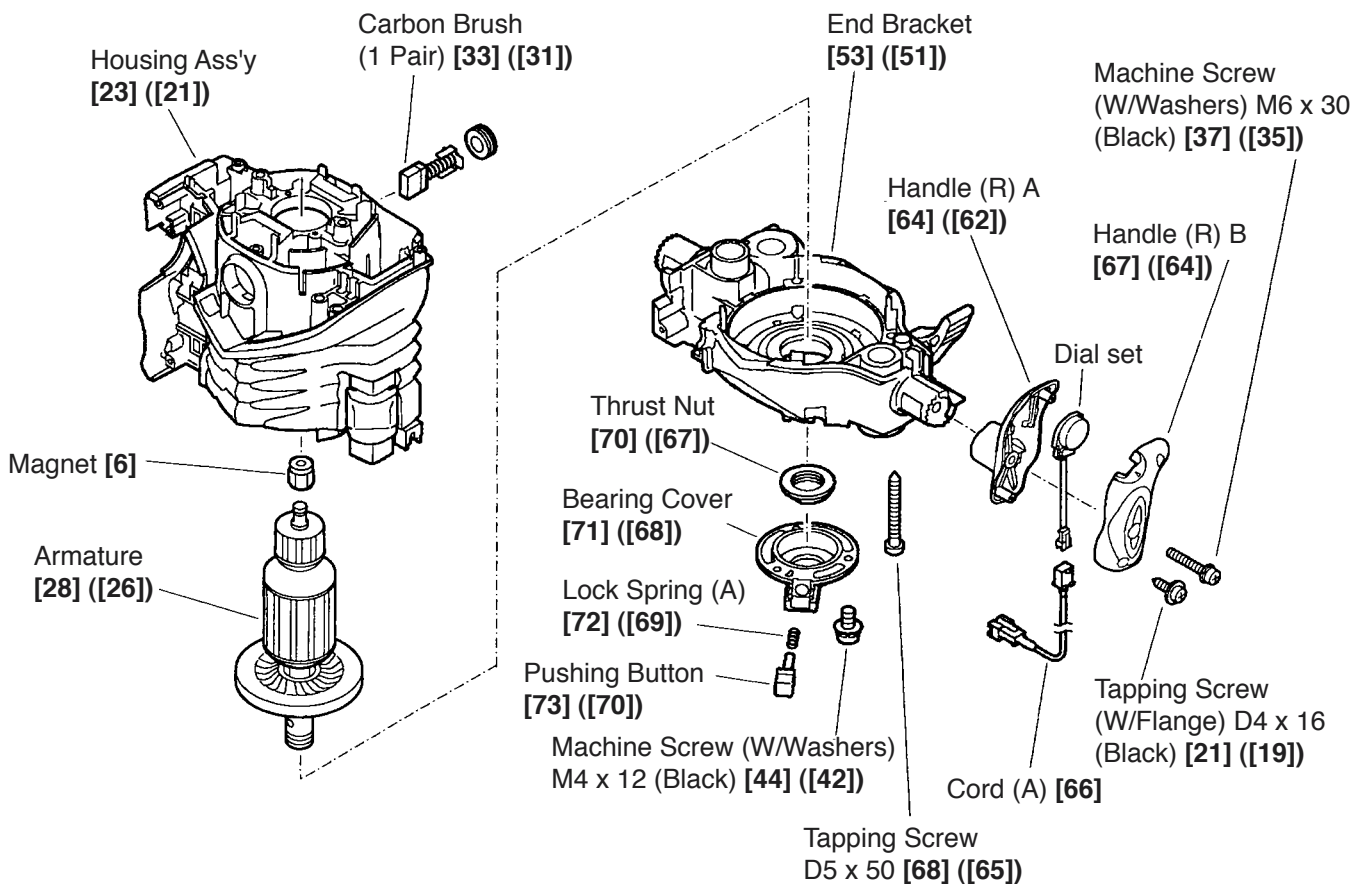

Fig. 13
- (5) Remove the Armature [28] ([26]) and the End Bracket [53] ([51]) (Fig. 13)
- Loosen and remove the two Tapping Screws (W/Flange) D4 x 16 (Black) [21] ([19]) and the Machine Screw (W/Washers) M6 x 30 (Black) [37] ([35]), and remove Handle (R) B [67] ([64]).
- Disconnect Cord (A) [66] from the Controller Circuit Dial Set [5] and remove Handle (R) A [64] (Model M 12V2 only).
- Loosen and remove the three Machine Screws (W/Washers) M4 x 12 (Black) [44] ([42]), then remove the Bearing Cover [71] ([68]), Pushing Button [73] ([70]) and Lock Spring (A) [72] ([69]).